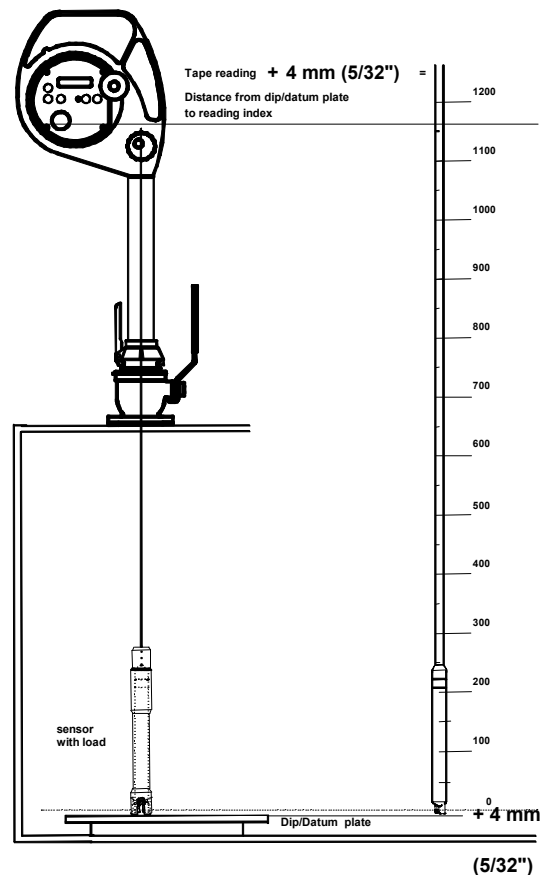

Figure 8-9
- When the sensing probe comes in contact with the dip/datum plate record the distance shown on the reading index. See Figure 8-9. The exact distance from the plate to the reading index is (reading + 4 mm / + 5/32") which is the reference height providing the reading index level has been adjusted to the zero ullage level of the tank. If the tank zero ullage is levelled above or below the reading index, an additional correction shall apply. For more details refer to section "Installation of the gauging system".